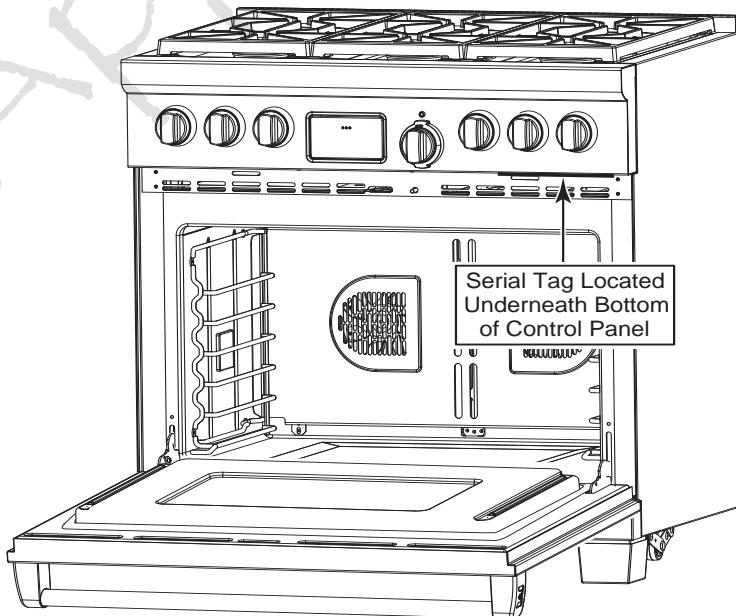

Figure 1-2. Serial Tag Located Underneath the Bottom of the Control Panel
- See Figure 1-2 for serial tag location.